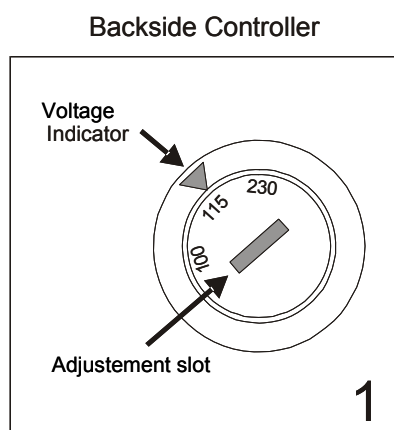

Figure 1: Voltage adjustment slot
2. Use a coin or another round shape item to turn the adjustment slot of the Voltage selector at the backside of the controller (see figure 1) to the new Voltage setting.